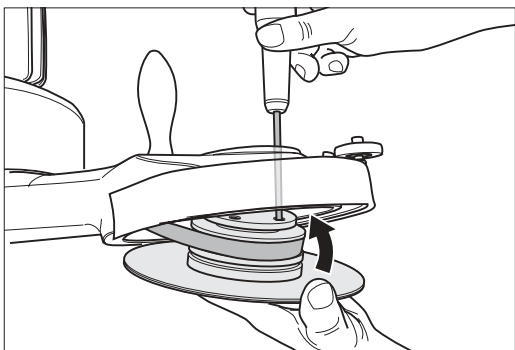

Fig. 74: For simplified assembly, insert a screwdriver from above through a hole in the attachment into a hole in the bearing unit of the sanding disc wheel.
- 18 To make sure that the hole pattern of the attachment and the fixture of the sanding disc wheel line up properly, insert a screwdriver from above through a hole in the attachment into a hole in the fixture of the sanding disc wheel (Fig. 74).